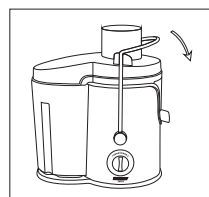

Fig. 12
3. After juicing, switch off the appliance and release hoop down. See Fig. 12